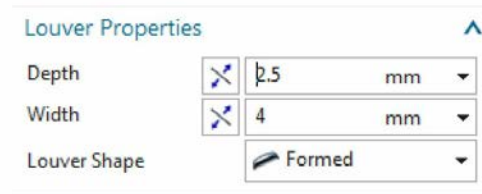
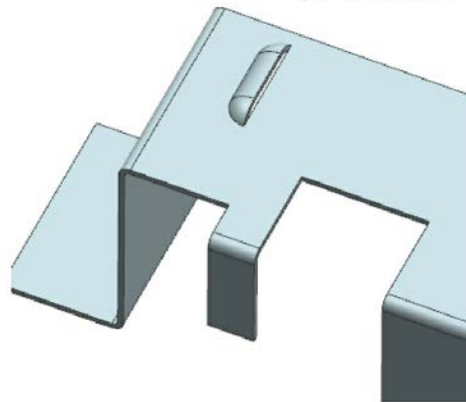

Figure 14-116 The settings required for the louver to be created
Figure 14-117 Louver created on the top face
4. Specify the settings in the **Louver Properties** rollout, as shown in Figure 14-116, in the **Louver** dialog box for the louver to be created. Choose the **OK** button; the louver is created, as shown in Figure 14-117.